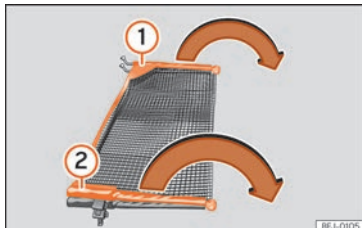

Fig. 127 Deploying the net partition.
Extend the cross rods » **Fig. 127 ①** and **②** of the net in the direction of the arrows until it "clicks".